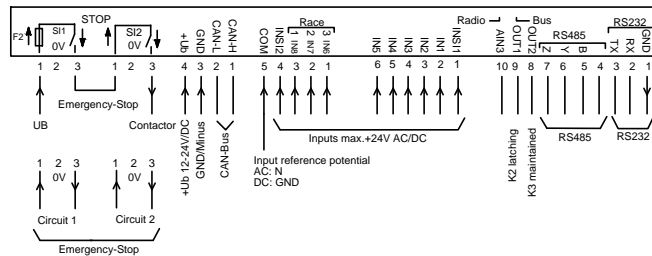

Figure 7: Connections at the RES receiver
- DE7.4.12 System misbehavior and faulty logs caused by misuse of these messages eliminates the demand for a re-run and may lead to a Disqualified (DQ). Same counts for any kind of hardware manipulation to the sender and receiver or improper antennas modifications. In doubt, the logs available on the official DL (see Section DE 7.3) count.
- DE7.4.13 The status of the switch (K2) and the button (K3) at the sender is contained in the PDO 2000 (bit 1 and 2) as well as on the digital outputs, see Figure 7. The E-Stop is signalized by PDO 2000 bit 0 and PDO 2003 bit 7. PDO 2006 contains the radio quality (0 % to 100 %) whereas PDO 2007 summarizes several radio states, i.e. the pre-alarm radio communication interruption (bit 6, 200 ms in advance to shutdown).